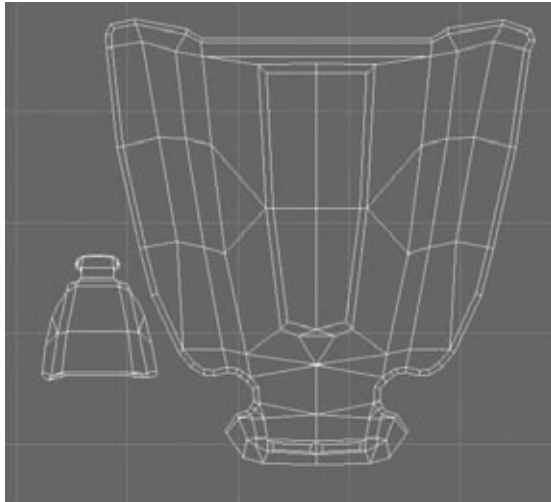

Figure 4.54
- Continue to sew edges together, attaching UV shells to either the top or bottom UV section until you have both the top and bottom UV shells complete. If you accidentally attach a bottom section to the top UV shell, you can simply select the edges that attach them, cut them, and sew them where they belong. You should eventually get a result similar to Figure 4.54.